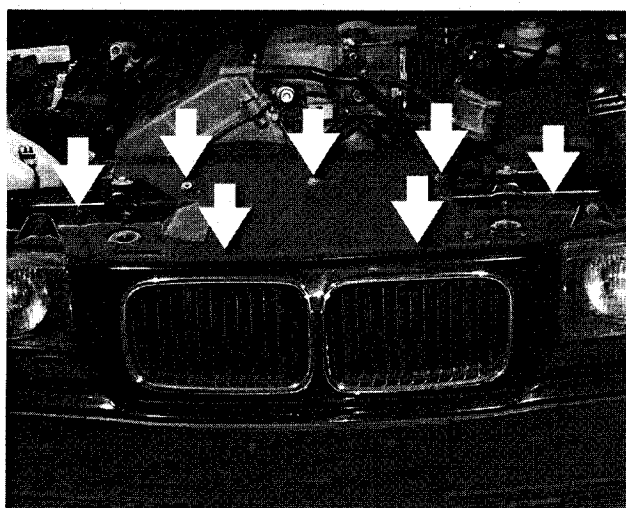

Fig. 3. Front air shroud mounting screws (arrows).
9. Remove air shroud from top of radiator. See Fig. 3.